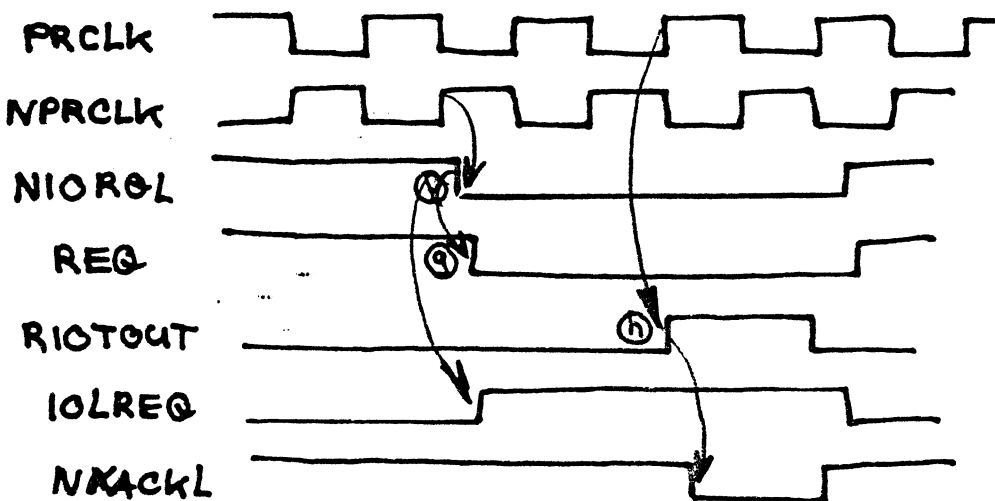

Figure 7.
2. Input/Output Access (see figure 7) (Not by a INTACK sequence)